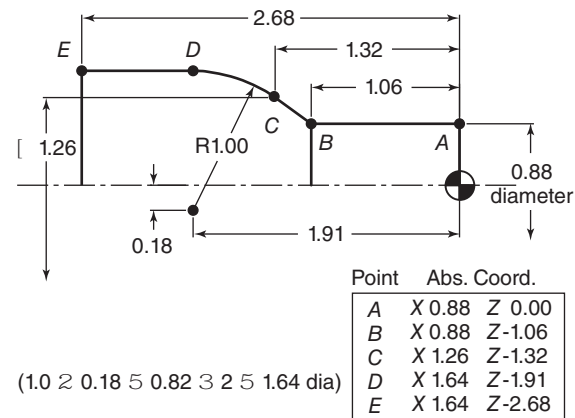

Figure 17-65 Answer to Problems 4 and 6.
4. See Fig. 17-65.
6. See Fig. 17-65.